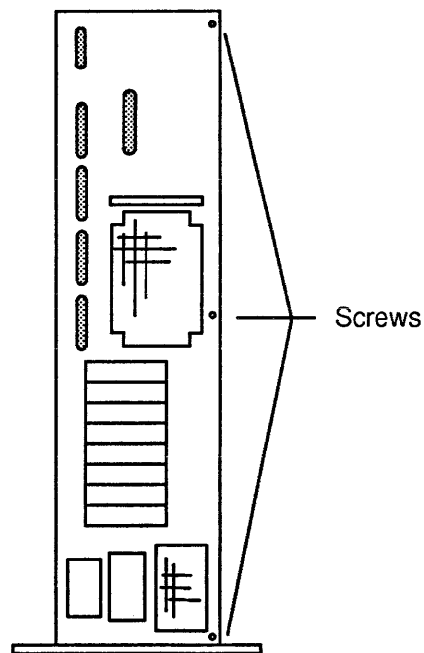

Figure 2.4. Side Panel Screws
2. Remove the three screws along the right edge of the rear panel. Refer to Figure 2.4.